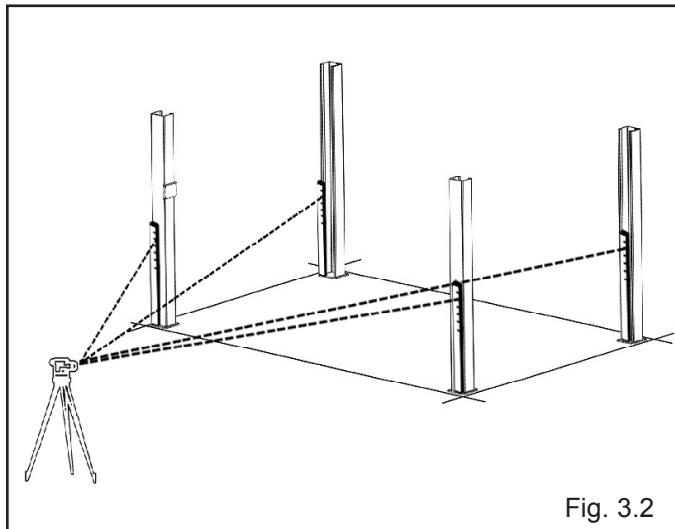

Fig. 3.2
2. To estimate the shim requirements, place a target on floor at each Column position and record the readings. Find the highest of the four locations then find the difference between each of the remaining Columns. This difference is the estimated amount of shim thickness that will be required at each Column. (See Fig.3.2)